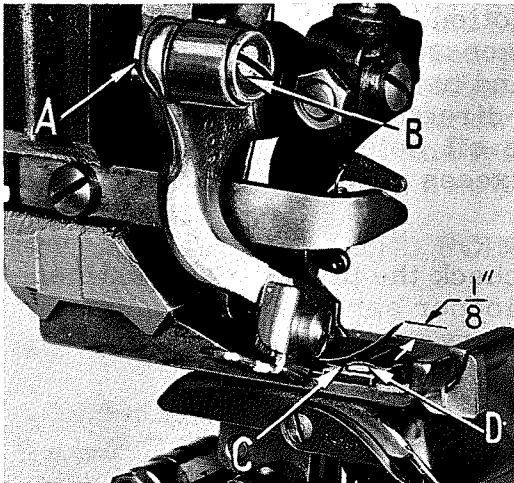

Fig. 7
Normal needle stroke setting is correct when the point protrudes approximately  $\frac{1}{8}$  inch beyond the right edge of presser foot at the end of its right stroke (Fig. 7). Increase to approximately  $\frac{5}{32}$  inch if a larger needle loop is required. If adjustment of the needle stroke is necessary, loosen the lock-nut (A, Fig. 7) and turn screw (B) to the right or left as required. Tighten the nut.
The needle should travel in the center of the groove in the needle guide (C, Fig. 7). If the needle is deflected from front to the back in its travel, loosen screw (D) holding the needle guide and allow needle to position the guide. Retighten the screw.